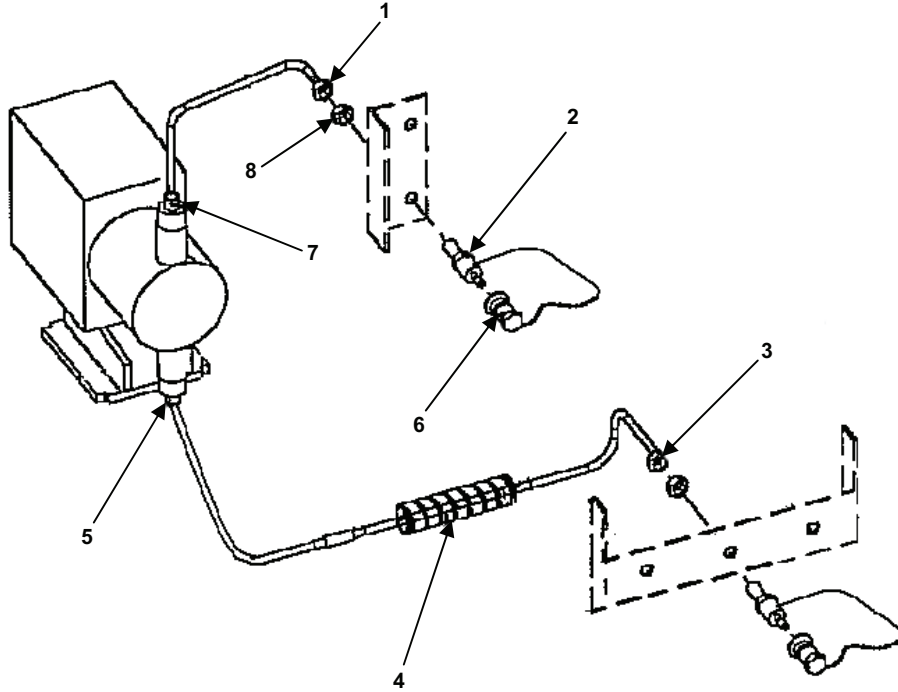

Figure 7. Coagulant/Bisulfite Tubing.
1. Disconnect discharge tubing at nut (Figure 7, item 1) and (Figure 7, item 7).
2. Remove inserts (Figure 7, item 8) from the tubing.
3. Disconnect suction tubing at nut (Figure 7, item 3) and (Figure 7, item 5).
4. Remove quick disconnect (Figure 7, item 2), dust plug (Figure 7, item 6) and spiral wrap (Figure 7, item 4) if necessary.
Refer to Figure 7 for this procedure section.
1. Ensure that the inserts (Figure 7, item 8) are present on all the tubing ends.
2. Install discharge tubing by connecting nuts (Figure 7, item 1) and (Figure 7, item 7).
3. Install suction tubing by connecting nuts (Figure 7, item 5) and (Figure 7, item 3).
4. Install spiral wrap (Figure 7, item 4) if removed.